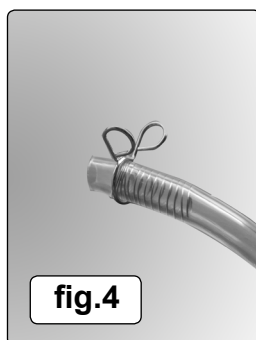

fig.4
4.4.1. Insert spring and fit clip to the drain hose as in fig.4.